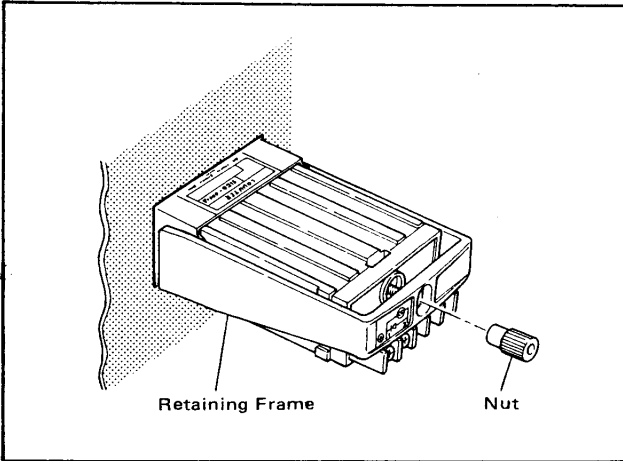

Figure 3-2. Installation.
- (1) Unscrew the nut and remove the retaining frame from the case.
- (2) Insert the instrument case from the front of the panel.
- (3) Attach the retaining frame from the rear of the panel, and secure it with the nut. (See Figure 3-2.)